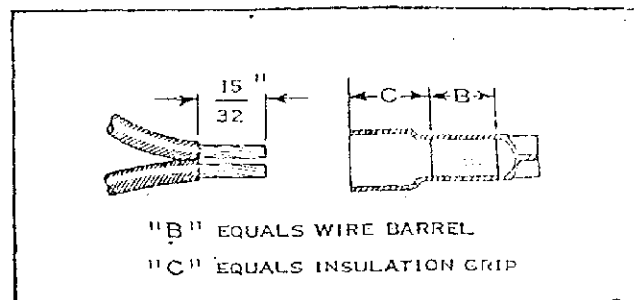

FIG. 2
- (a) Strip Wire to dimensions shown in Figure 2.